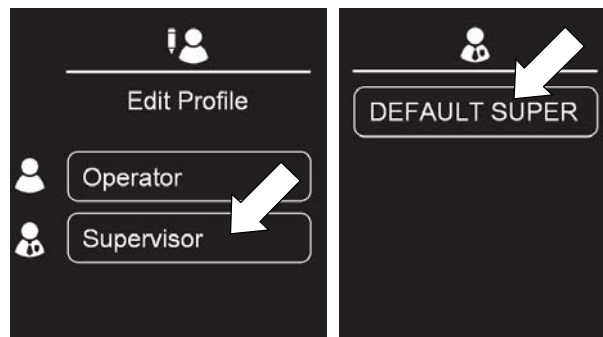

FIG. 192
4. Press the Supervisor button then press the DEFAULT SUPER button (Figure 192).